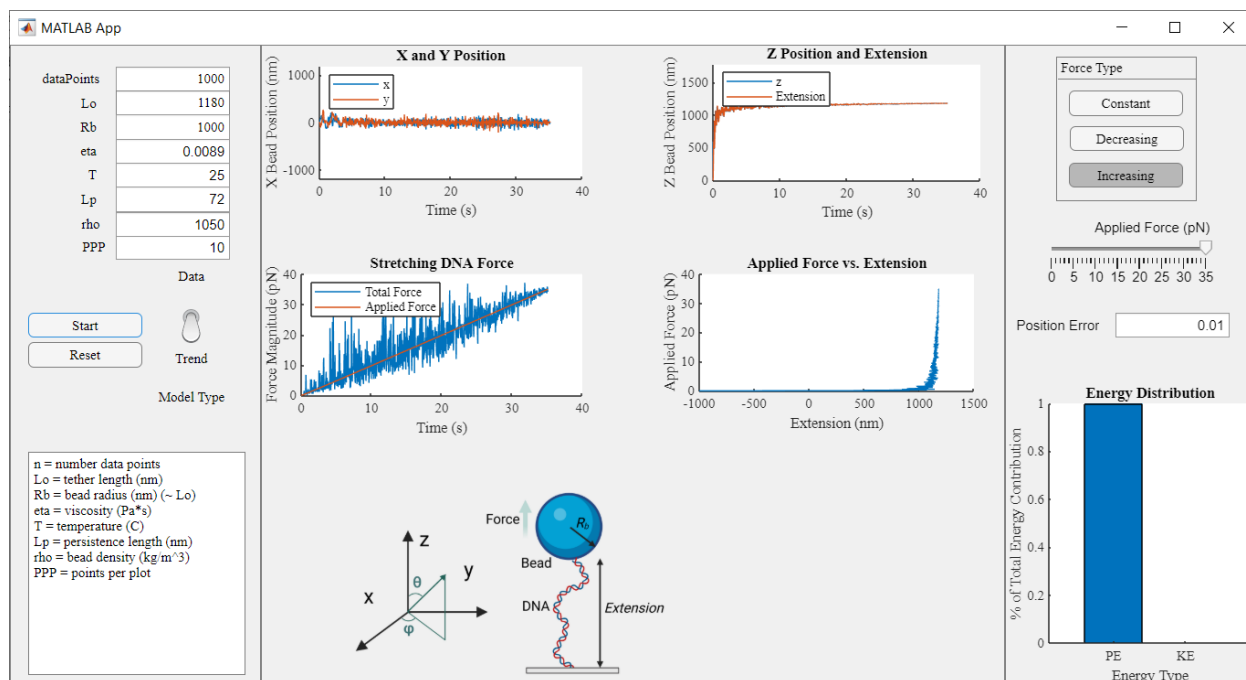

Figure 7: GUI after running a linearly increasing force ramp using the Trend model.
5. The simulation should look like as shown in Figure 7.
8. The simulation should look like as shown in Figure 7.